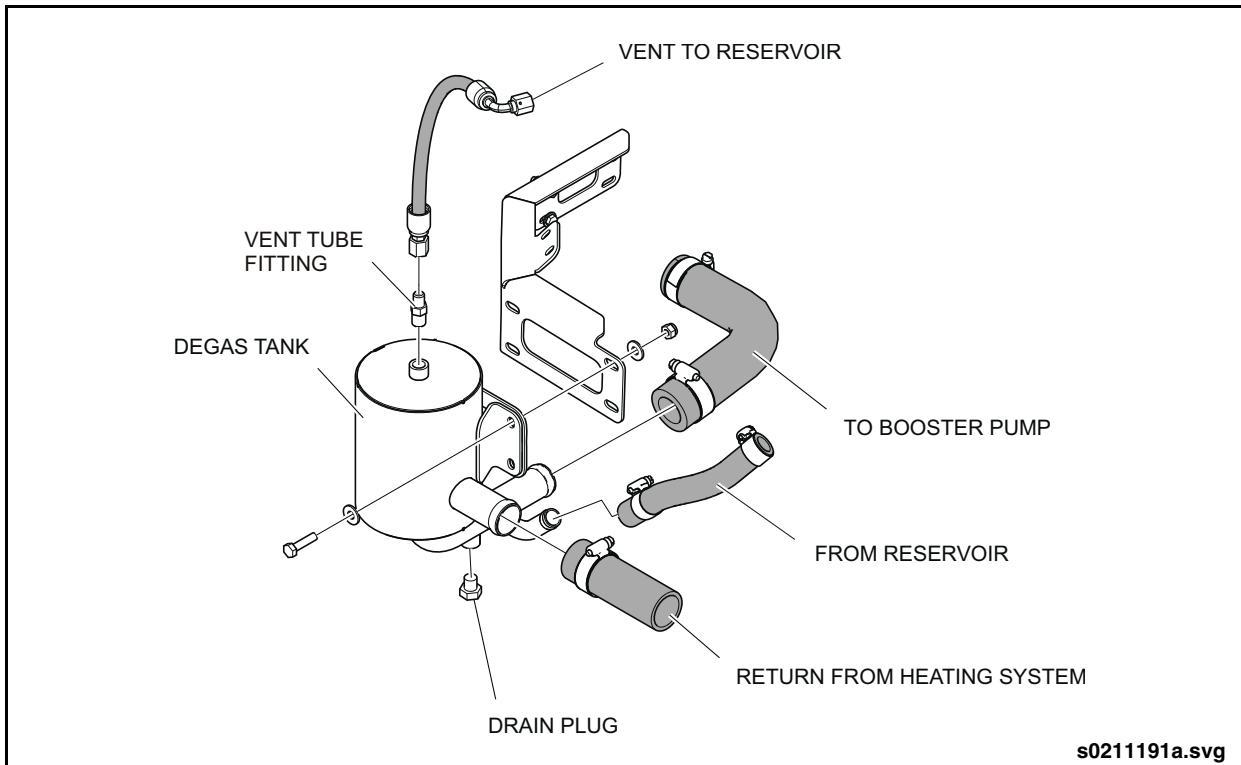

Fig. 10-19: Degas Tank Installation
1. Relieve system pressure using the manual pressure relief valve on the reservoir filler cap. Remove the filler cap. See "Fig. 10-19: Degas Tank Installation" on page 59.